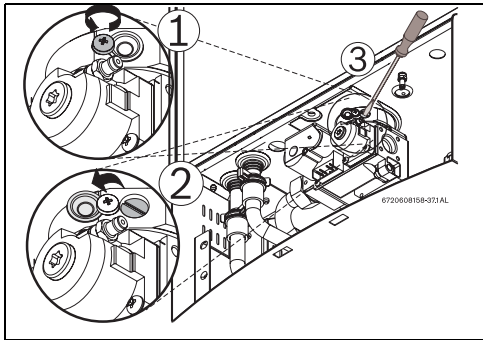

Fig. 52 Adjusting P1 CO₂ level
- Loosen yellow painted philips screw (Fig. 52 ,pos. 1) and cover should rotate down (Fig. 52 , pos. 2) revealing a recessed brass slotted screw. (Fig. 52 , pos. 3).
- Remove yellow painted #40 Torx cover from the front of the gas valve, Fig. 52 . A plastic #40 Torx screw will be revealed.
- Return slotted screw cover to original position and tighten the philips screw, Fig. 52 .